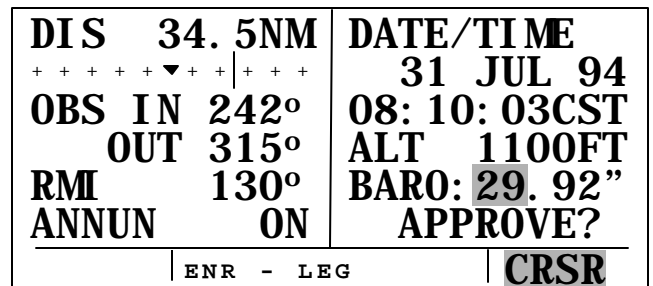

Figure 3D-4. Self-Test Page
b. Self-Test. The turn-on page will be displayed for a few seconds. During this time, the KLN 90B performs an extensive internal test. When the internal test is complete, the Self-Test page will automatically replace the Turn-On page. Refer to Figure 3D-4.